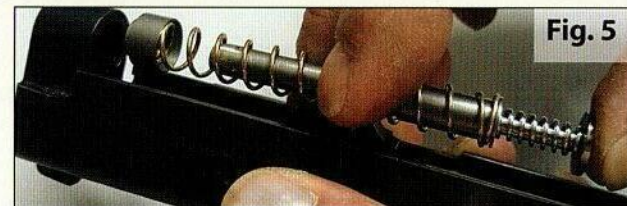
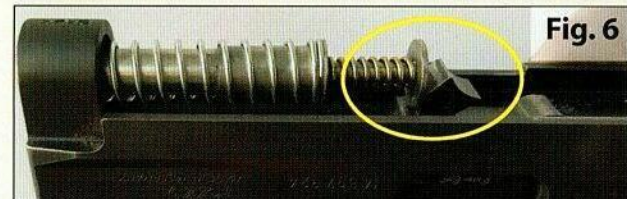

Fig. 5
Fig. 6
1. Apply one of the External Springs to the Recoil Rod. Apply the Spring Plug to the free side of the External Spring and set to the slide **Fig.5** compress with your thumb the base of the Recoil System with the external spring, to fit in the correct position on the barrel **Fig.6**